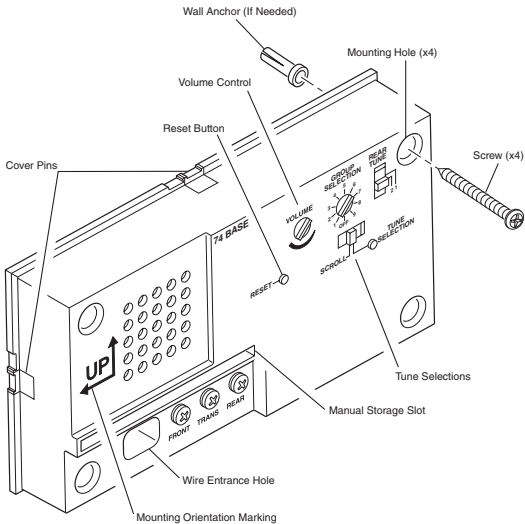

Figure 1
- See actual unit for orientation of base (see Figure 1).
- Route the wires through the wire entrance hole (see Figure 1).
7. Determine cover mounting type. For hanging type covers, cover pin should be exposed (see Figures 1 and 4).
2. Set "Group Selection" switch to the group number desired (see Figure 1). *Note:* No tune will play when Group Selection is in the "OFF" position.